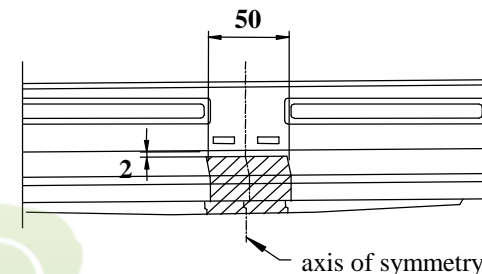

Fig. 2
5. Cut out fragment bumper's reinforcement according to figure 2.